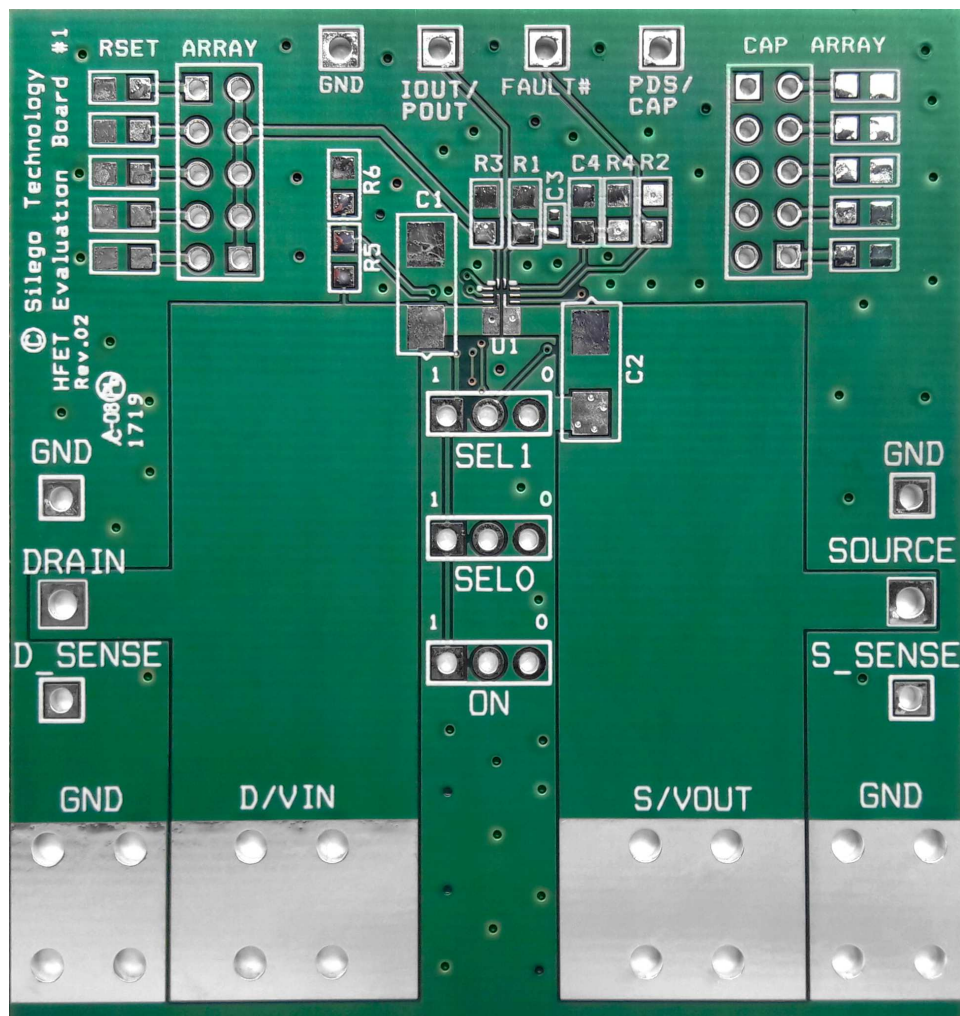

Figure 45. SLG59H1020V Evaluation Board
1. Since the VIN and VOUT pins dissipate most of the heat generated during high-load current operation, it is highly recommended to make power traces as short, direct, and wide as possible. A good practice is to make power traces with absolute minimum widths of 15 mils (0.381 mm) per Ampere. A representative layout, shown in Figure 45, illustrates proper techniques for heat to transfer as efficiently as possible out of the device;
A High Voltage GreenFET Evaluation Board for SLG59H1020V is designed according to the statements above and is illustrated on Figure 45. Please note that evaluation board has D\_Sense and S\_Sense pads. They cannot carry high currents and dedicated only for  $RDS_{ON}$  evaluation.